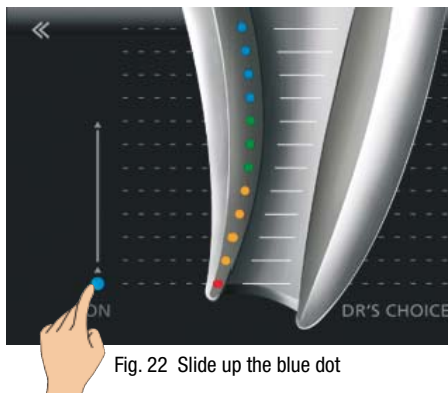

Fig. 22 Slide up the blue dot
- Place your finger on the blue dot and drag it to the preferred position in the apical section (Fig. 22).